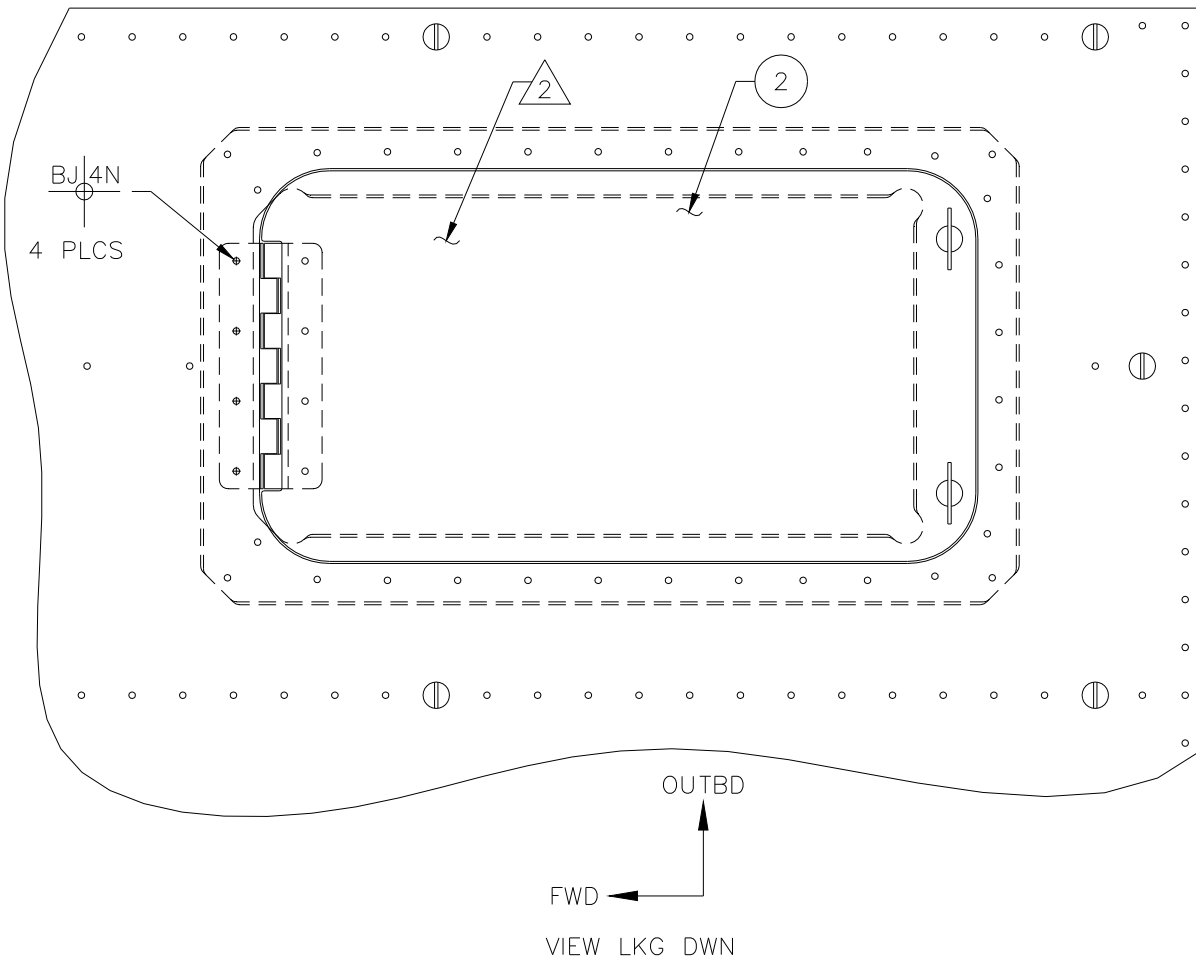

**Figure 2**
4. Position the Frame Assembly, Item 1, on the inner side of the cowling as shown. Drill all the existing holes from the cowling into the Frame Assembly. Drill all the holes from in the Frame Assembly into the cowling. Reference Figure 2.
5. Open all the rivet holes as required and rivet the Frame Assembly to the cowling as shown. Reference Figure 2.